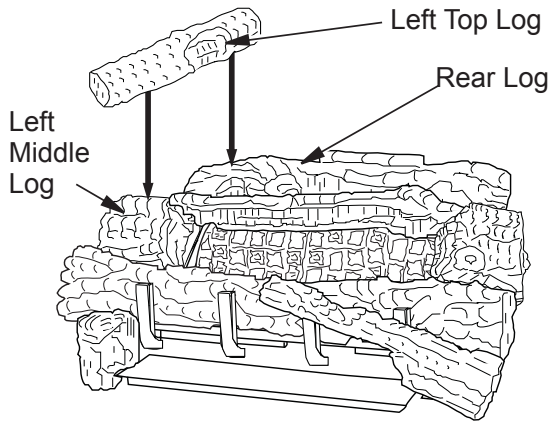

Figure 37 - Installing Left Top Log
- Place the left top log onto the rear log and the left middle log. Make sure to place the projection on the bottom of the left top log into the recessed areas on the rear and left middle logs (see **Figure 37**).